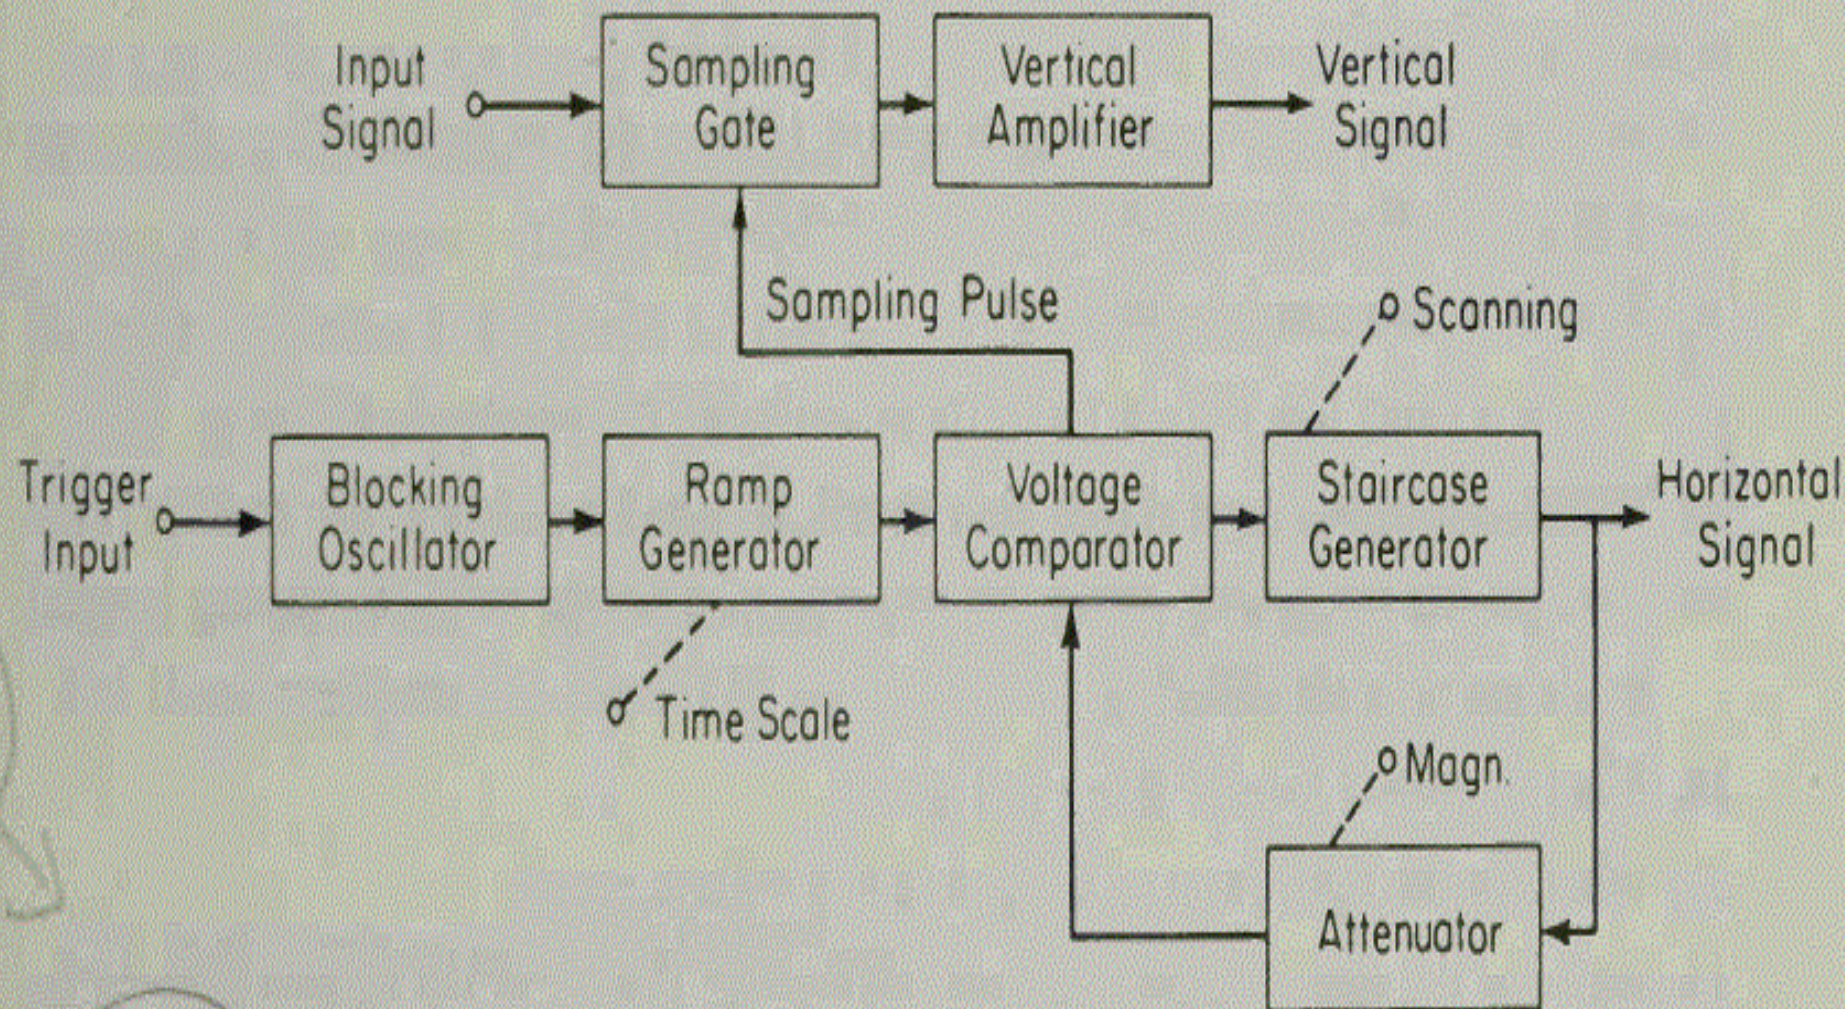

Figure 7-50 Simplified block diagram of the sampling circuitry (courtesy Hewlett-Packard Company).
- A simplified block diagram of the sampling circuitry is given in Fig. 7-50.